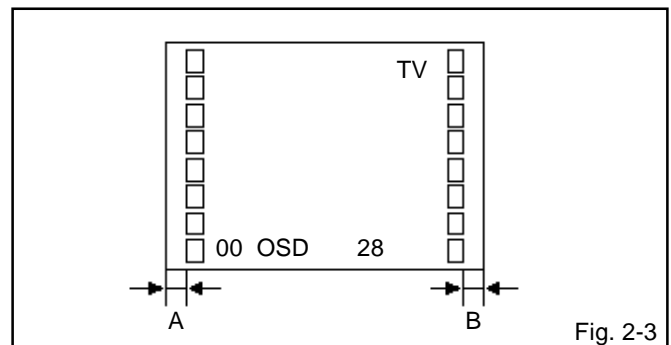

Fig. 2-3
2. Press the VOL. UP/DOWN button on the remote control until the difference of A and B becomes minimum. **(Refer to Fig. 2-3)**